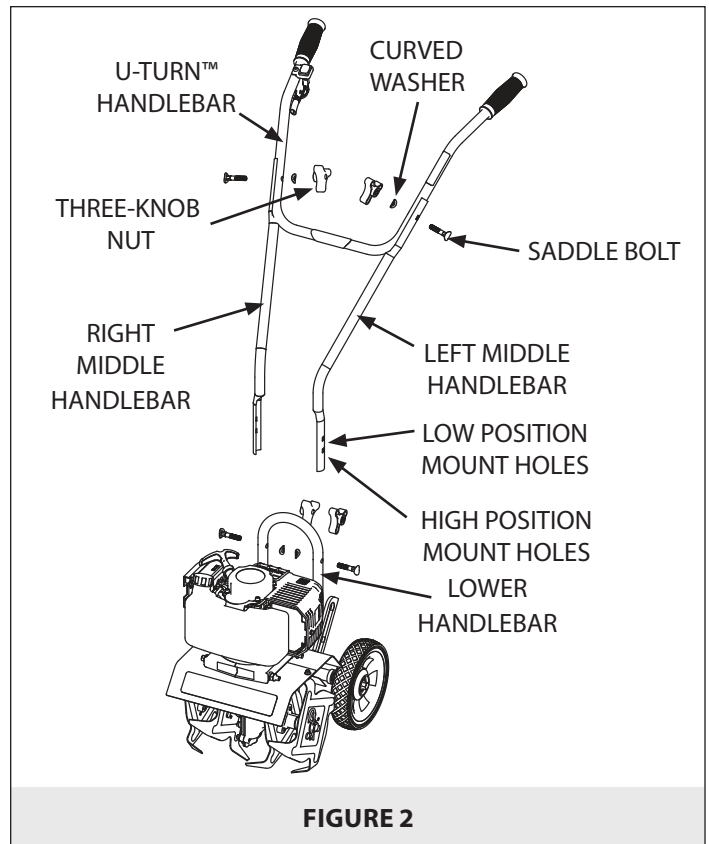

FIGURE 2
2. Using two three-knob nuts, two saddle bolts, and two curved washers, attach the middle handlebars to the lower handlebar that is already connected to the tiller cultivator assembly. The middle handlebars can be installed in one of two positions, one high and one low. **DO NOT** overtighten the three-knob nuts. **SEE FIGURE 2.**
3. Attach the U-Turn™ handlebar assembly to the middle handlebars using the two remaining three-knob nuts, saddle bolts, and curved washers. **DO NOT** overtighten the three-knob nuts. **SEE FIGURE 2.**